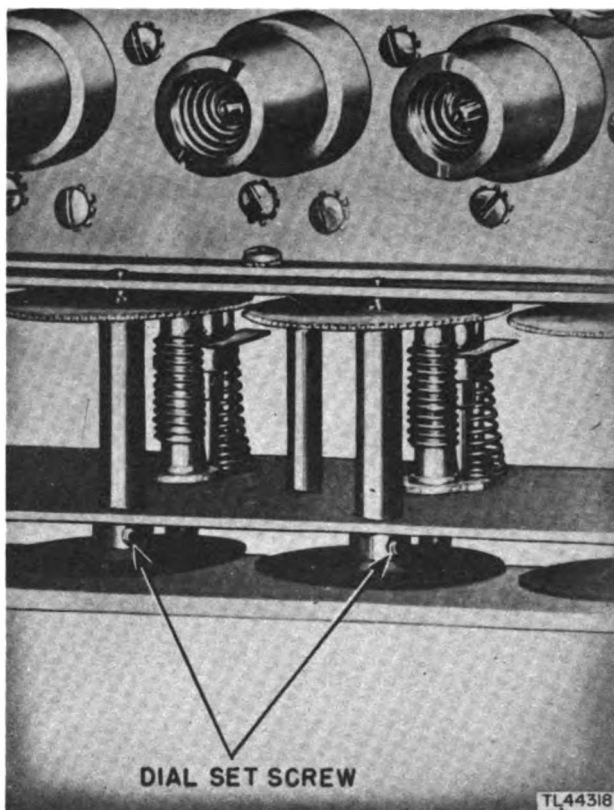

Figure 78. Receiver r-f tuning section, top view.
(1) Turn each tuning shaft to its maximum clockwise position and check the zero position of each dial. If the dial does not read zero in this position, loosen the dial setscrew (fig. 78) and rotate the dial until zero coincides with the hair-line.